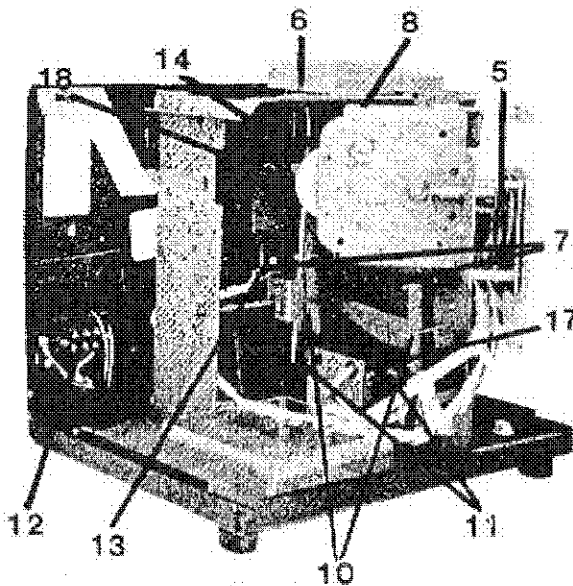
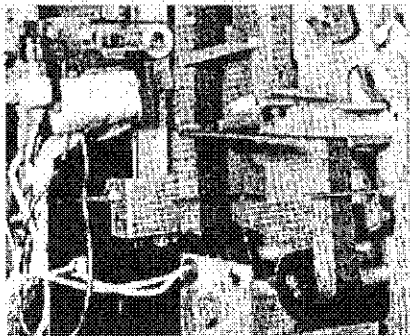

Figure 2
Figure 6
3. Push the Type Wheel Overthrow Lever (Figure 2. 8) down until it locks.
8. Rotate the Face Setting Wheel (Fig 2, 5) to advance hands on the clock face so that they coincide with the time on the type wheels. (To set DWA face, see page 14.)
4. Remove and retain cotter pins at ends of Ribbon Spindles (Fig 2, 11). Remove and discard ribbon.
6. Thread ribbon as in Figure 6. Ribbon reversing grommets must be under Ribbon Reversing Fingers (Fig 2, 10).